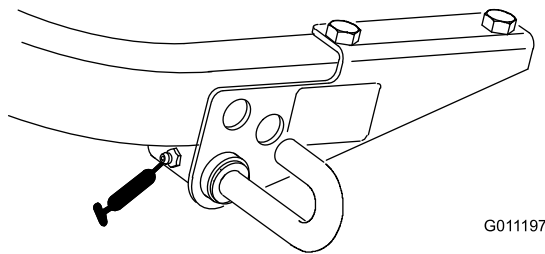

Figure 31
- Mow lockout lever (Figure 31).